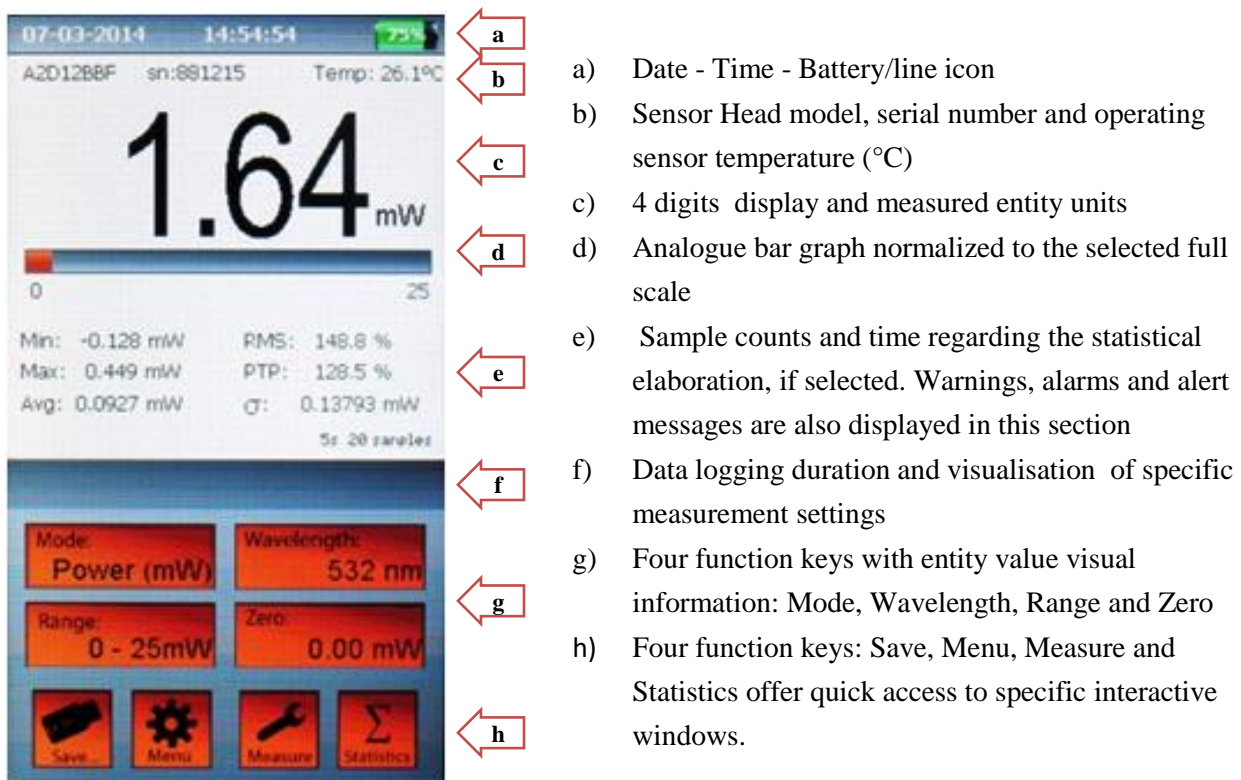
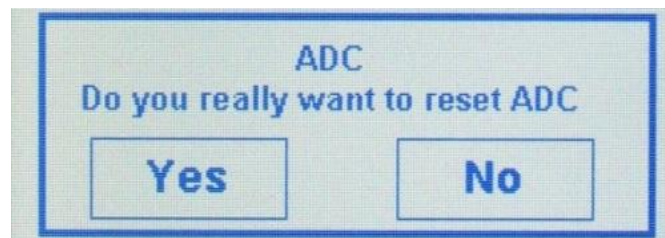

Fig. 4 The touch screen display
Fig. 7 ADC resetting request window
Touch Screen Display- Figure 4 shows the touch screen display; in its upper right corner the display hosts an icon showing which type of power source is used.. A green battery icon with an associated figure indicating its charge level in percentage of its full charge (in 25% unit steps) shows the instrument is powered by its rechargeable battery. When the battery is about to be exhausted the green icon converts to a red vertical bar associated with a small white plug. When the instrument is plugged in its line power supply the icon converts in a white plug icon.
- Check the desired laser wavelength value is displayed in the Wavelength key (Fig.4 (g))
Fig.4 shows an image of Plus 2 meter touch screen; its display is split in two main parts: its upper part is dedicated to reports the measurement related information and is the read out only part of the touch screen display. The lower part is the actual interactive area of the instrument and is filled with the touch screen keys dedicated to the instrument and measurement settings.
- To reset the ADC keep **Zero** key pressed until the window shown in Fig. 7 appears on the screen in the display segment e) as described in Fig. 4
Average value can be set from 0.1 sec to 99 sec and when a value greater than zero has been entered a yellow frame borders **Measure** key and an “Avg.” notice appears just in the right side of the display segment f) (see Fig. 4).